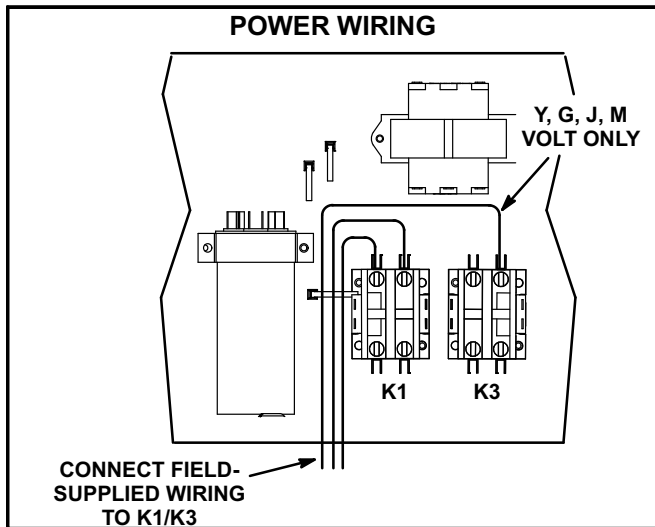

FIGURE 8
- 2- Route power through the side or bottom power entry area. For bottom power entry, a bottom power entry kit must be used. Connect power wiring to K1/K3 contactors in control box. See figure 8. On units equipped with electric heat, route power wiring to TB2; see parts arrangement for location. See unit wiring diagram.